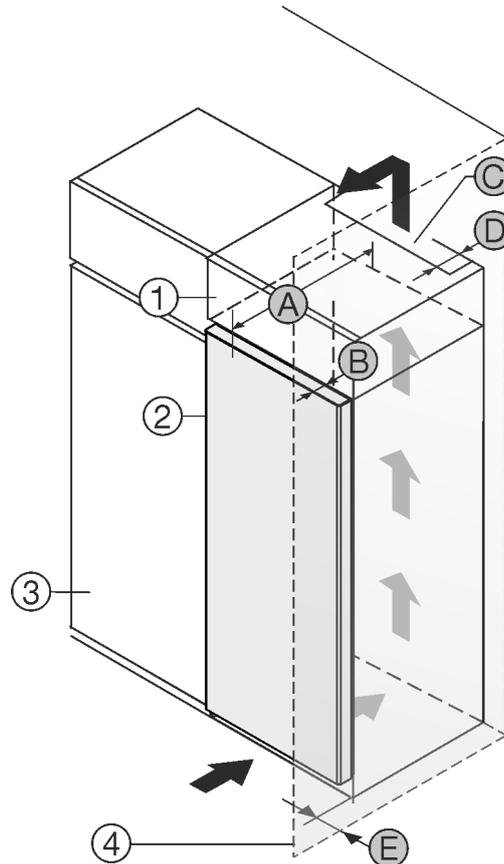

Fig. 1
You can place the appliance directly beside the kitchen cabinet Fig. 1 (3).*
There must be a ventilation shaft at the depth Fig. 1 (D) of the back of the top cupboard over the entire width of the top cupboard.*
The ventilation cross-section Fig. 1 (C) must be maintained under the ceiling.*
If the appliance is set up with the hinges next to a wall Fig. 1 (4), the distance between the appliance and the wall must be at least 13 mm.*
If the appliance is set up with the hinges next to a wall Fig. 1 (4), the distance between the appliance and the wall must be at least 20 mm.*
In order to be able to fully open the door, the appliance must protrude by the depth of the door Fig. 1 (B) from the front of the kitchen cabinet. The appliance may protrude further depending on the depth of the kitchen cabinets Fig. 1 (3) and whether wall spacers are used.*